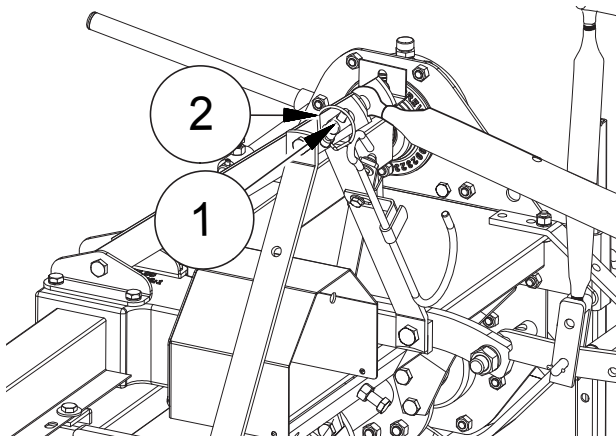

FIG. 14
- Move the tie-rod of the power-lift to the three-point hitch ("Fig. 14"). Set the tie rod so that the machine stays on